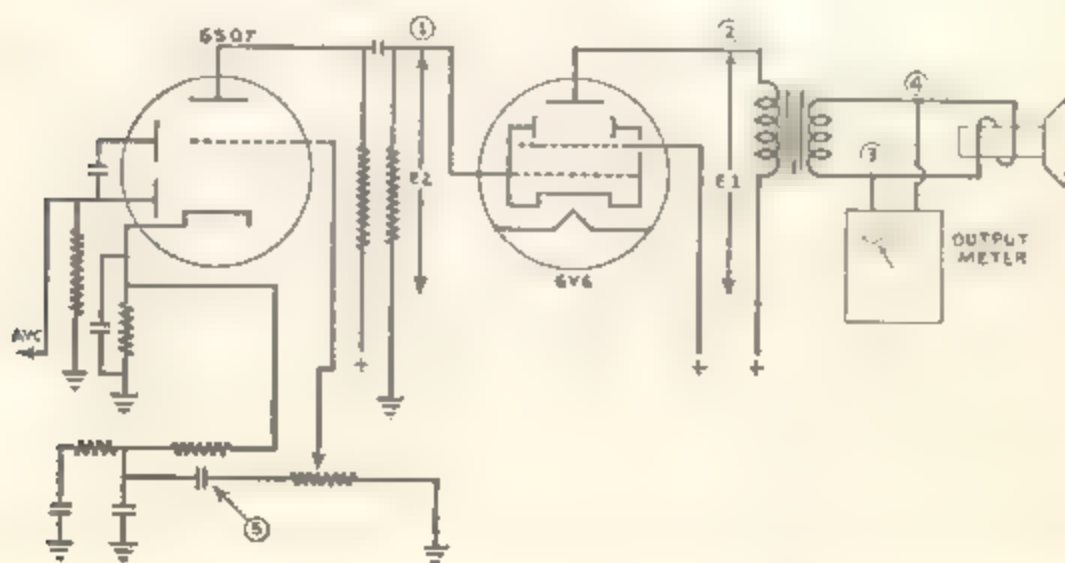

Figure 7 Simplified Circuit of Audio Amplifier Section of Radio Receiver
Since the purpose of a tube and its associated circuits, in most cases, is to amplify the signal, a measurement of its ability to amplify is the best indication of its condition. This is called stage gain and is illustrated in Figure 7 which represents a 6V6-6L6 tube in the output stage of a radio receiver. Here the input voltage is represented by E2 and the output voltage by E1. The stage gain is expressed by the ratio of E1 to E2 or $E1/E2$. If E2 is 3 volts and E1 is 30 volts, then the gain is $30/3$ or 10. If E2 were 1 volt and E1 were 10 volts, the gain would be the same, $10/1=10$. Therefore it can be seen that it is the ratio between the input and output voltages that indicates the stage gain and that the actual voltage applied to the input is not important, provided it is high enough to give a usable signal and not high enough to overload the tube. An output pentode can be expected to have a gain of from 10 to 20, a beam power tube a gain of from 20 to 30 while a triode will have a gain of only from 2 to 5.
Output readings usually are taken across the voice coil as shown by points (3) and (4) in Figure 7. Due to the step down ratio of the output transformer, which is often higher than 30 to 1, the voltage appearing across points (3) and (4) will be in the same ratio. Hence, if E2 is 3 volts and E1 is 30 volts, then the voltage across points (3) and (4) will be $30/30$ or 1 volt if the step down ratio is 30/1. In measuring stage gain, the general procedure is to select some value of voltage appearing across the voice coil circuit and determine the voltages necessary to apply to different stages to produce the same voltage across the voice coil. The ratio between these voltages indicates the stage gain. In laboratory measurements this is usually stated in terms of the number of microvolts necessary to produce an output of .5 watts (.05 for
2. Connect the Model 340 output lead to the input grid of the output tube of the radio receiver as shown at point (1) in Figure 7.
3. Connect an output meter across the voice coil as shown at points (3) and (4) in Figure 7. Set it on the 2.5 AC range.
5. Measure the output of the Model 340 being fed into the grid at point (1). Use either a V.T.V.M. or a copper oxide type of meter for this purpose. This reading may, for example, be about 2 volts and is represented by E2.
6. If a V.T.V.M. is available, measure the signal voltage at the plate of the 6V6 tube, point (2) in Figure 7. A Copper oxide meter can be used for this purpose with a series condenser if correction is made for the condenser. The reading at this point may be about 60 volts which is represented by E1. The gain of the stage is therefore $E1/E2$ or $60/2=30$. The low reading of 1 volt appearing at points (3) and (4) across the voice coil is due to the step down ratio of the output transformer. This voltage will usually be less than the input voltage applied at Point (1).
2. Connect the output of the Model 340 to the input of the triode section of the 6SQ7 tube, point (5) in Figure 7 (across the volume control). Turn the volume control to its maximum position.